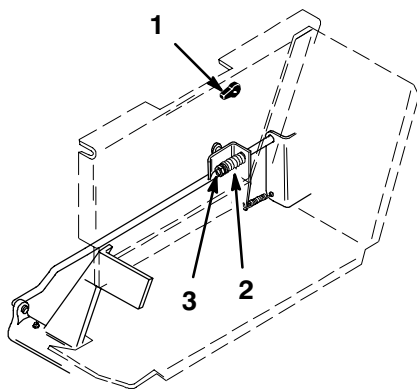

Figure 28
The brake adjustment is behind the left side cover (Fig. 28). If the parking brake does not hold securely, an adjustment is required.
3. To adjust the brake tighten adjustment nut until large spring is fully compressed, then back off 1/2 turn (Fig. 28).